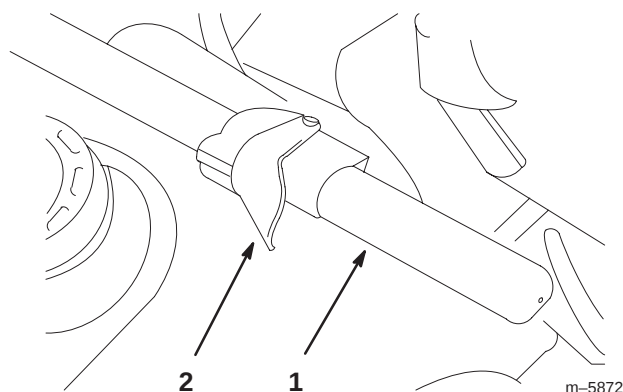

Figure 26
2. Reach back, squeeze and release the latch lever against the bagger lever (Fig. 26). This will open the latch that secures the bagger door.
3. Pull down on the bagger arm to allow the grass to fall out of the bagger (Fig. 26).
- Return the bagger arm to upright position in one quick motion. Make sure the bagger door fully engages into the latch (Fig. 26).